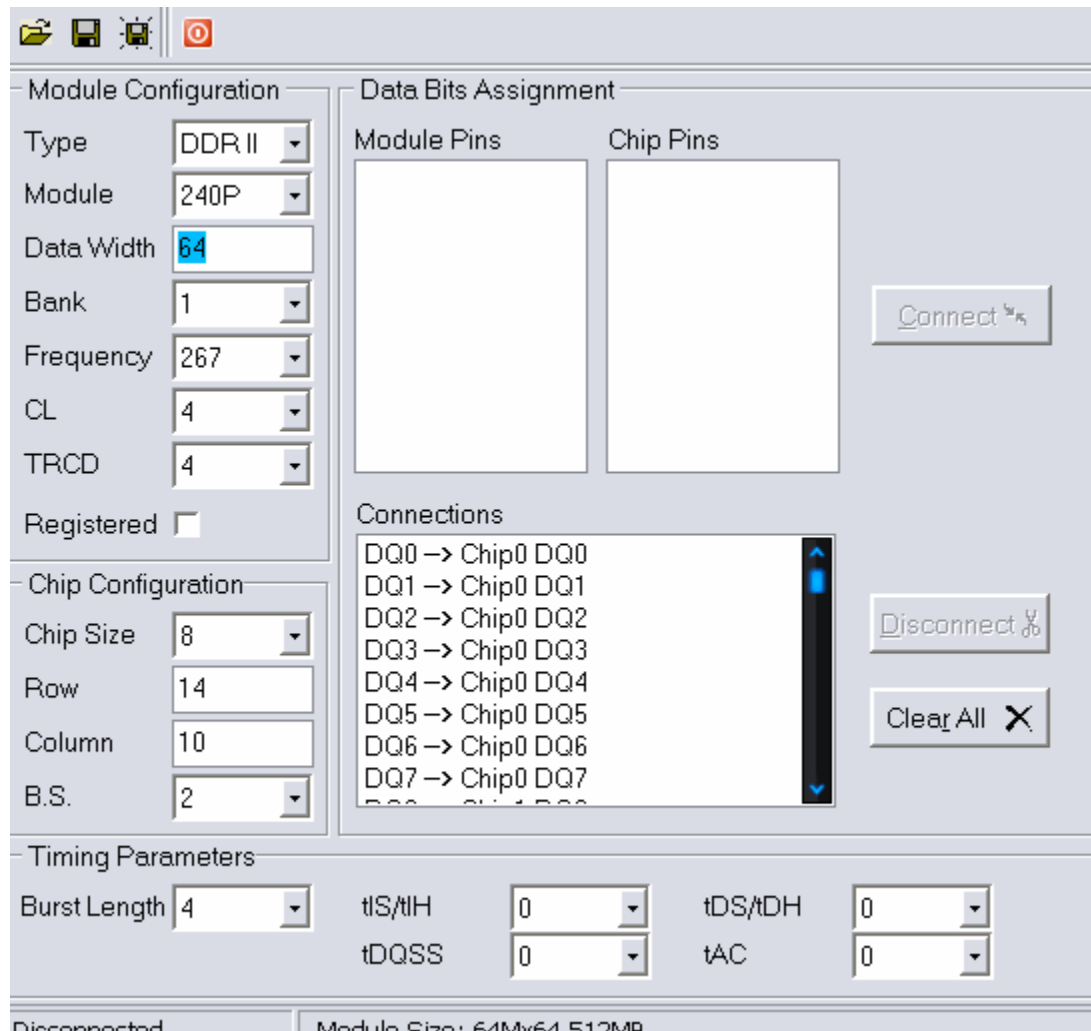

Fig. 32
**Step 2:** On the next window, user is ready to configure the module. (Fig. 32)